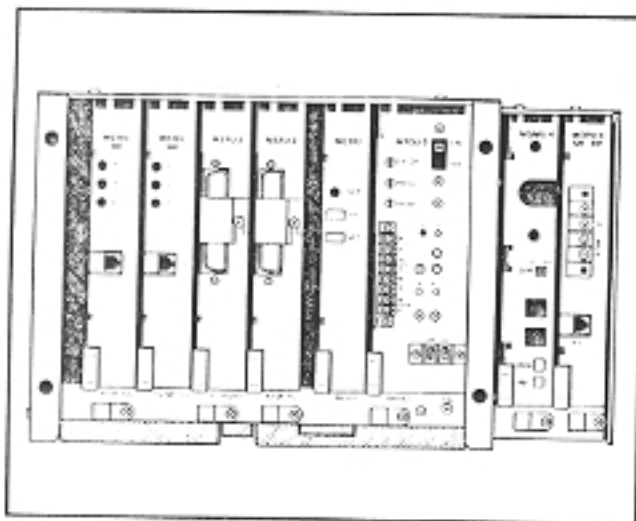

FIGURE 12—MKSU/KBXU
06.01 The MKSU arrangement illustrated in Figure 12 shows the locations of the various PCBs. The KBXU add-on module on the right side of the MKSU is optional and is used only when an MOPU PCB (OPX) and/or MSMU PCB (SMDR) is required. All PCBs slide in from the front of the cabinet, and, although the rear panel of the MKSU is removable, rear access is usually not required.